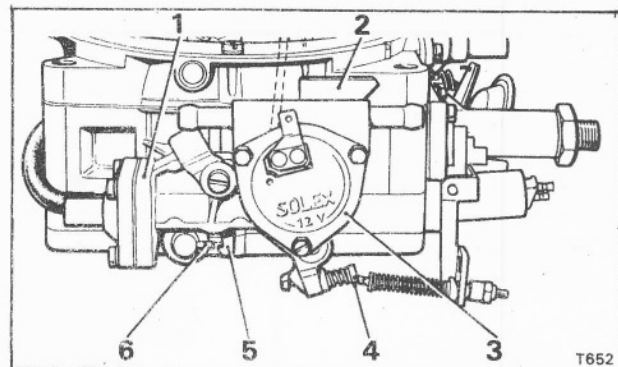

Fig. K68 Choke fast-idle
2. Open the throttles and raise the fast-idle cam counterbalance lever to the vertical position (see Fig. K68), release the throttle linkage whilst holding the lever vertical. The throttle linkage will now be engaged on the highest step of the fast-idle cam and the throttles will be in the cold start position.
6. Alterations to the speed can be made by adjusting the fast-idle screw (see Fig. K68).